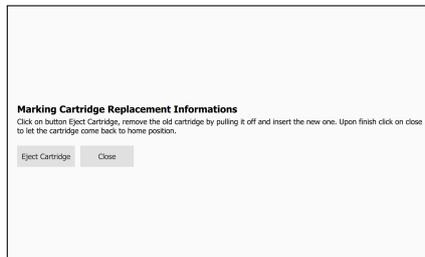

Figure 42: Replace Cartridge
**Replace marking cartridge:** it allows the user to remove and substitute the exhausted marking cartridge (see figure 42).